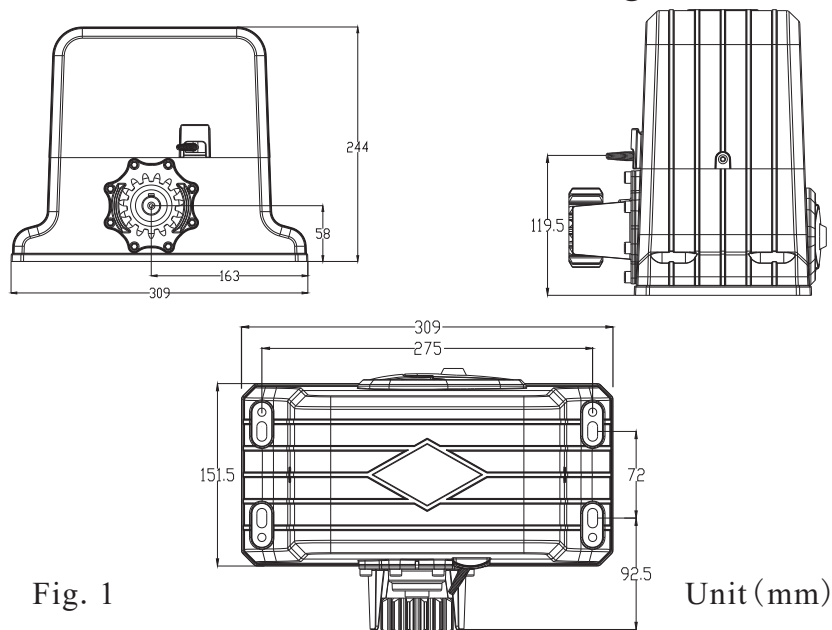

Fig. 1
3. Outline and installation size (Fig. 1)